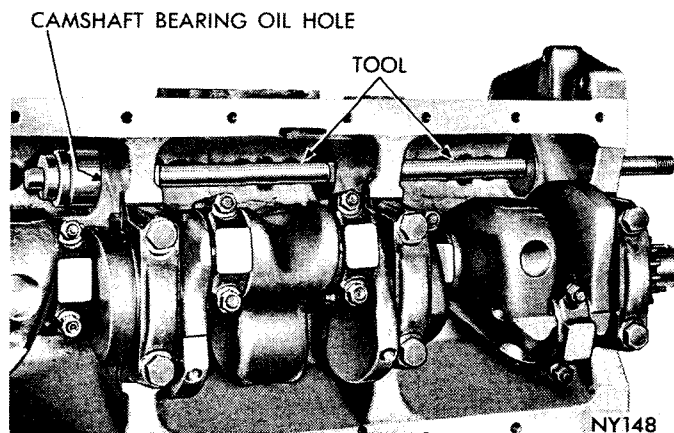

Fig. 25—Removing Camshaft Bearings
(1) With camshaft removed, drive out rear cam bearing welch plug.
(2) Install proper size adapters and horse shoe washers (part of Tool C-3132A) at the back of each bearing shell and drive out all bearing shells (Fig. 25).